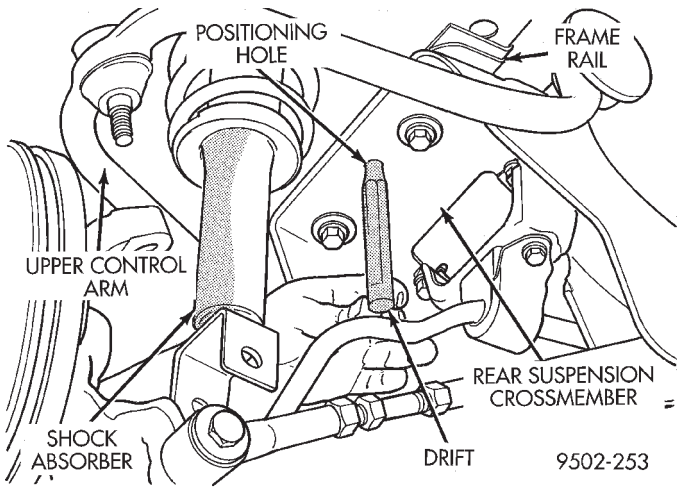

Fig. 29 Locating Rear Suspension Crossmember In Vehicle
(3) Position an appropriate size drift into the positioning hole in each side of rear suspension crossmember and crossmember locating holes in frame rails of the vehicle (Fig. 29). This is required to properly position rear suspension crossmember in the body of the vehicle. Then tighten the 4 crossmember to frame rail attaching bolts to 95 N-m (70 ft. lbs.). Remove drifts from rear suspension crossmember.